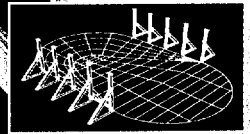
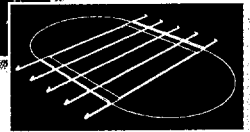

Fig. 1 - Semi-inground (with deep-end liner)
Fig. 2 - Aboveground (requires strap system)
- Beaded vinyl liner with decorative fringe; available with deep-end section for semi-inground pools (See fig. 1)
- The Montebello oval pool, with braces, may be installed aboveground (See fig.2) or semi-inground (See fig. 1)